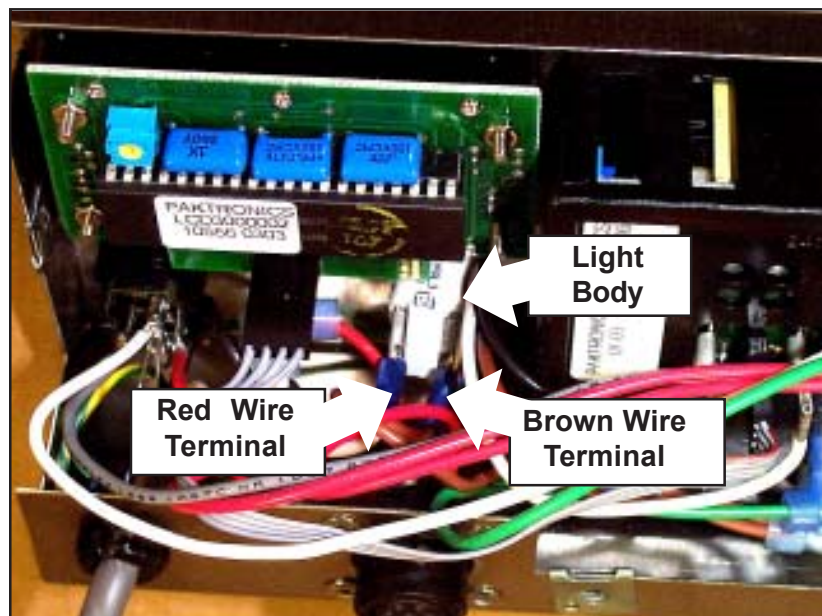

Figure 22. Indicator Light Body Inside the heat Controller
3. Pull the connector on the brown wire off the indicator light terminal (Figure 22).
1. From the front of the heat controller, press the new indicator light body into its opening into the panel. Press it all the way in until it snaps in place (Figure 22).
2. Push the connector on the brown wire onto the indicator light terminal as shown in Figure 22.
3. Push the connector on the red wire onto the indicator light terminal as shown in Figure 22.